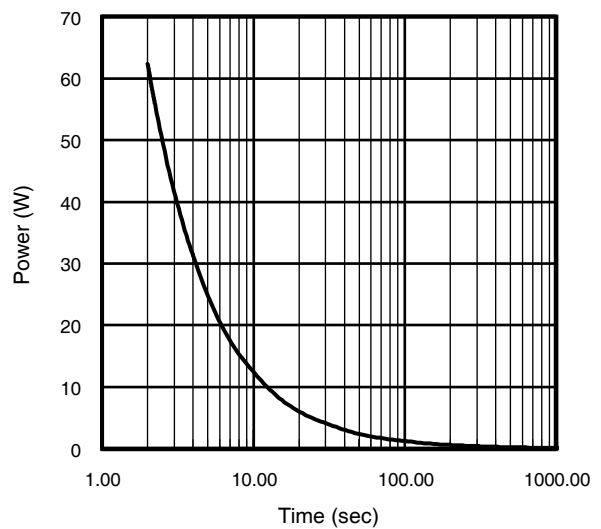

Fig 15. Typical Power Vs. Time
Notes on Repetitive Avalanche Curves , Figures 15, 16:
7. ΔT = Allowable rise in junction temperature, not to exceed T_{jmax} (assumed as 25°C in Figure 15, 16).